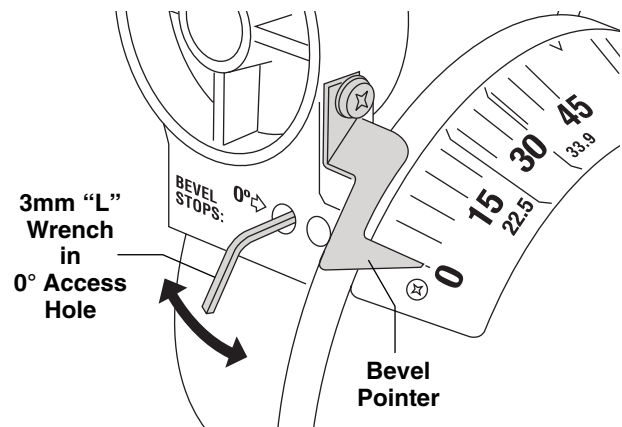

Figure 2b. Calibrating Blade at 0 degrees (90° to the table)
4. Place 4 mm Allen wrench bit onto multi-purpose tool and loosen setscrew "D" at least 3 full turns (Figure 2b).